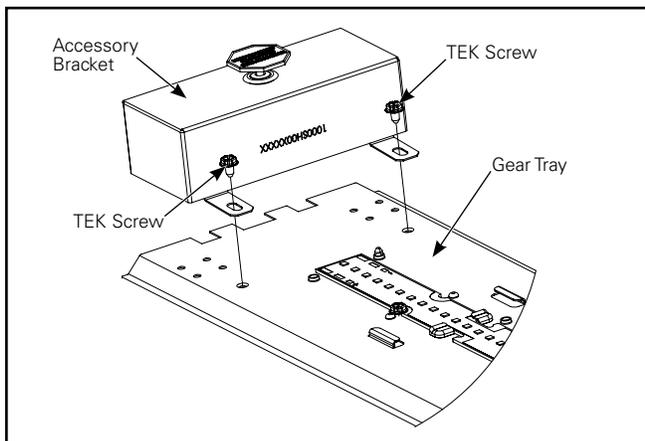
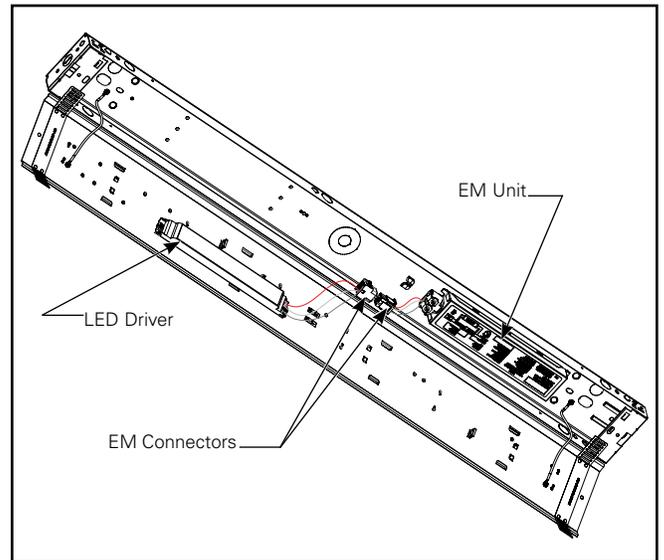

Figure 7.
Figure 8.
10. Wiring – Remove accessory bracket before installing the gear tray (Figure 7.) Hang SSRK Gear tray to allow for wiring (Figure 8.), make the connection between EM unit and LED Driver. Route the EM unit test switch wire to end of gear tray with slots at the end, feed the wire through a socket track hole if applicable. When mating the gear tray to the channel, guide the EM test switch wire through the corresponding slot on the gear tray to make sure the EM wire is accessible to connect to the EM test switch.